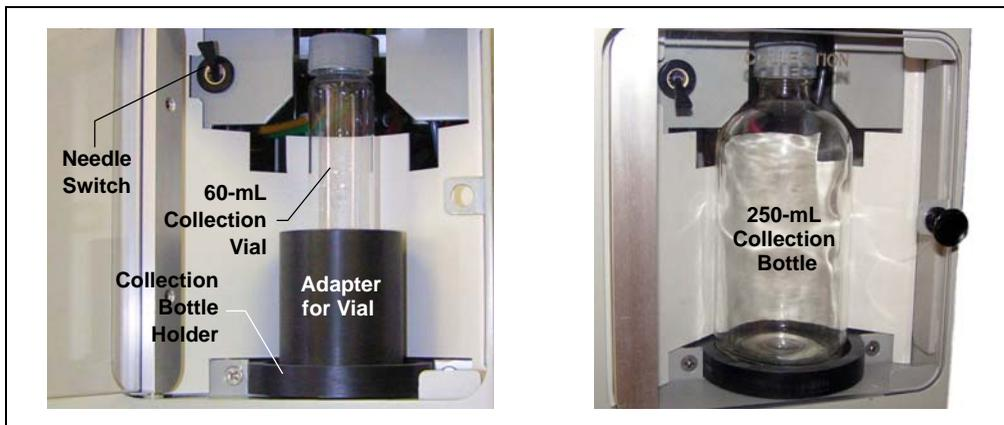

Figure B-12. Installing the Collection Vessel
1. Open the collection vessel compartment door and toggle the needle switch to the **UP** position (see Figure B-12).
2. If you are using a 60-mL collection vial, place the vial into the adapter (P/N 066392) and then place the adapter on the collection bottle holder (see Figure B-12). If you are using a 250-mL collection bottle, place the bottle directly on the collection bottle holder.